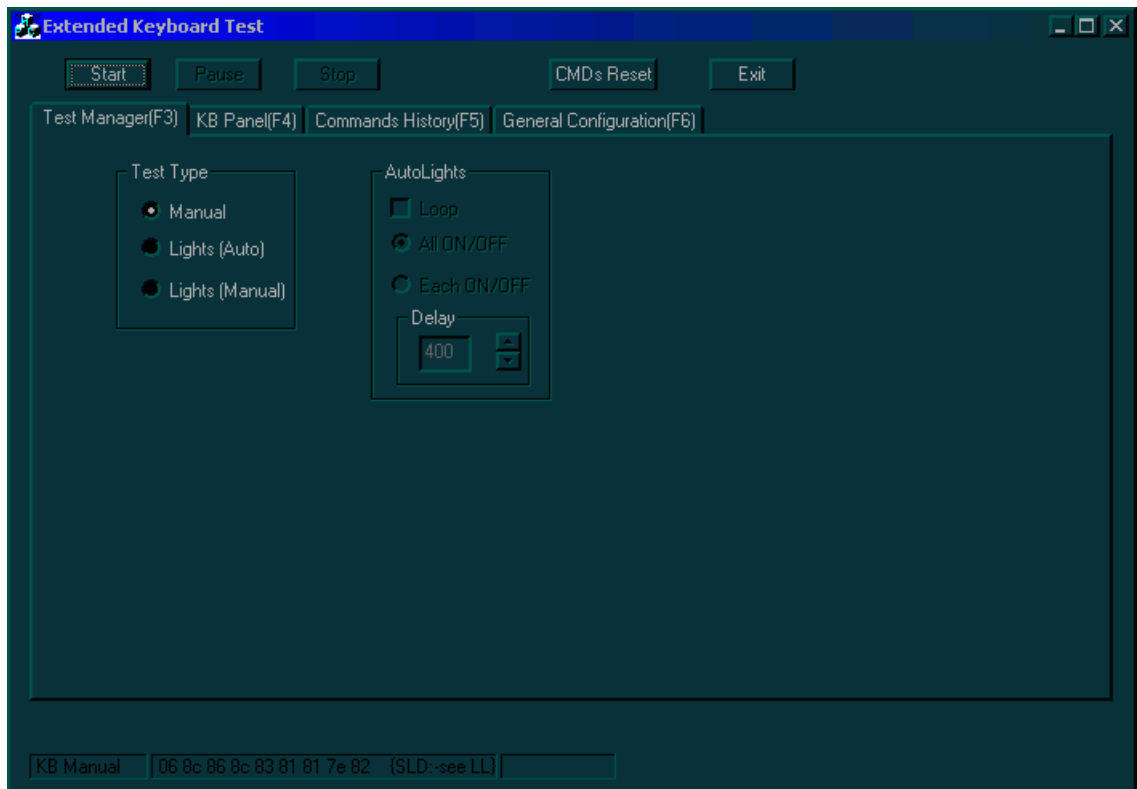

Figure 7-48 Test Manager Tab - Extended Keyboard Test Window
- 2) Trackball to the **External Keyboard** button and press **Select**. The *Extended Keyboard Test* window is displayed, as shown in Figure 7-48 on page 7-73.